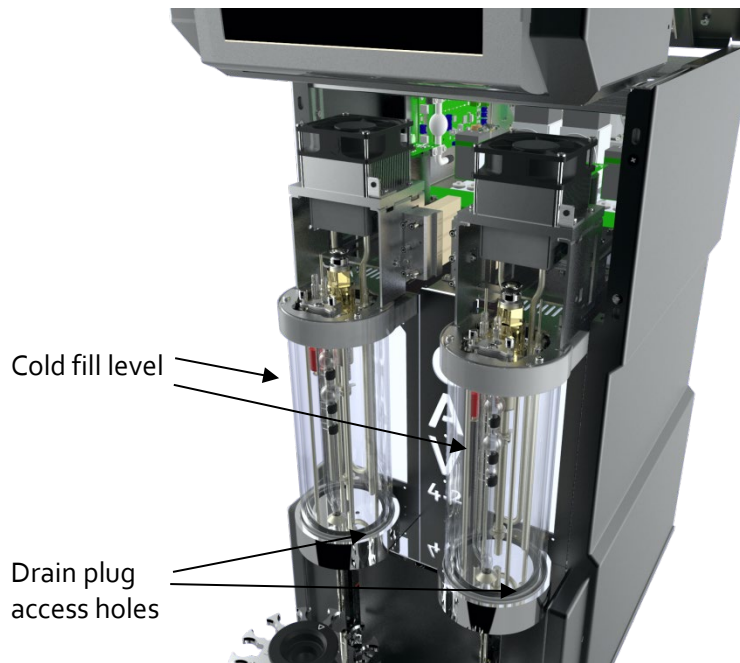

Figure 5 — Temperature Bath Details
3. Insert the $\frac{3}{16}$ " Allen wrench into each drain plug access hole and verify that the drain plug is closed (clockwise to close). See Figure 5 for drain plug location.